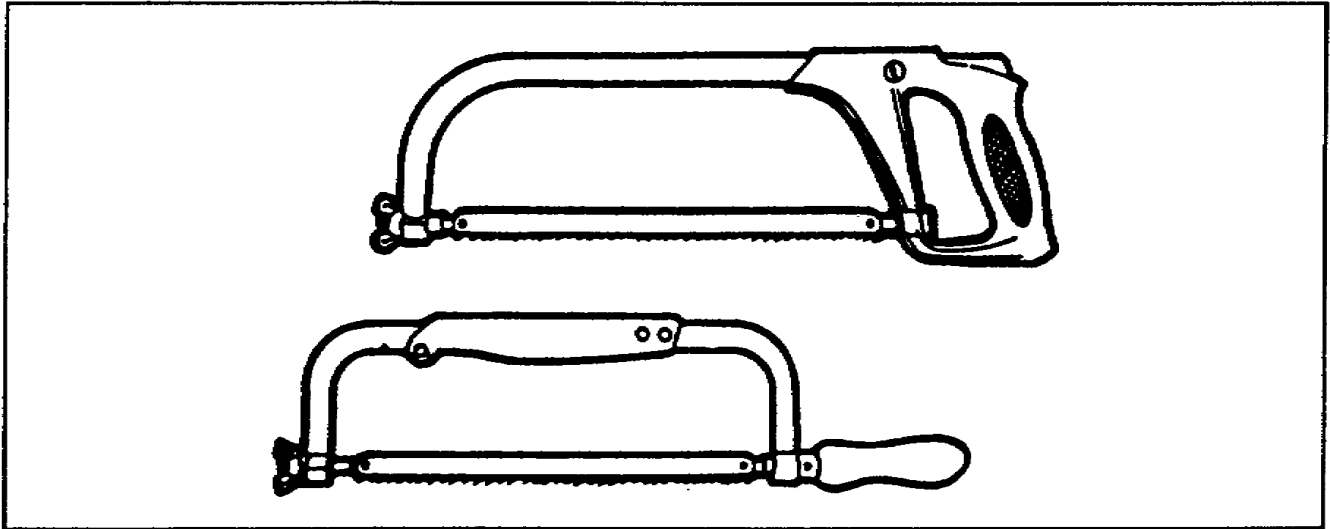

Figure 2-10. Hacksaw
(5) Hacksaw. This saw is 10 to 12 inches long; it has 14 to 32 points per inch (Figure 2-10). It is used to cut metal, such as metal trim or aluminum thresholds. It should not be used to cut wood.